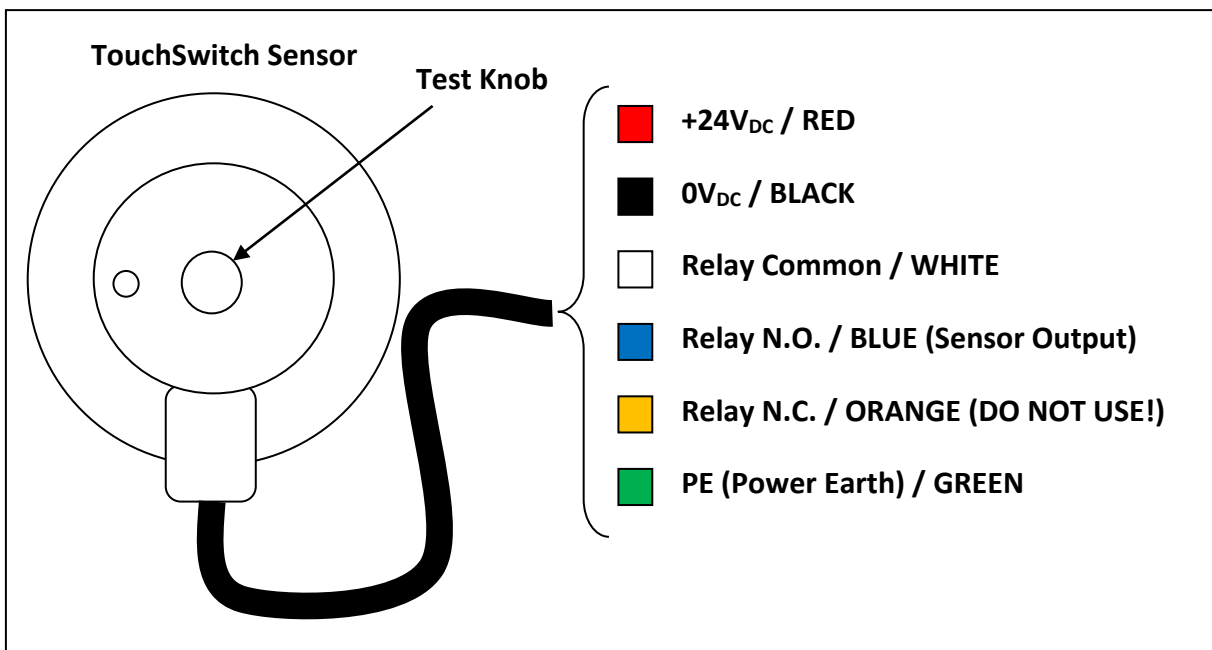

Figure 7 – TouchSwitch™ Electrical Connection
- Please refer to Figure 7 for an illustration of the installation process